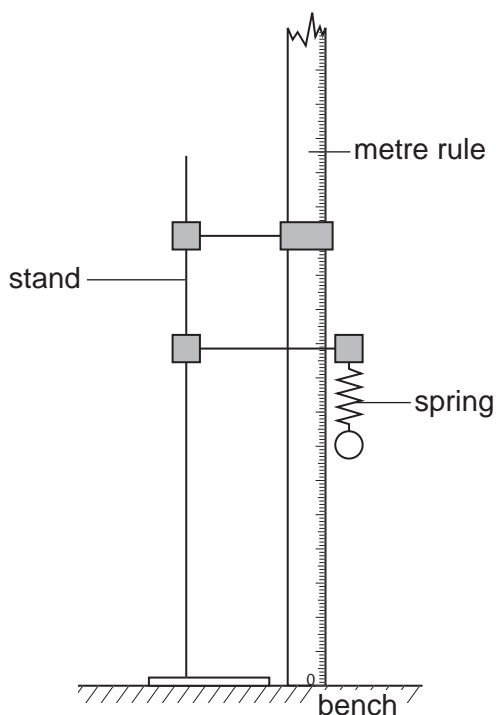

Fig. 1.1
1. The apparatus is to be set up as shown in Fig. 1.1. The zero end of the rule must be touching the bench.